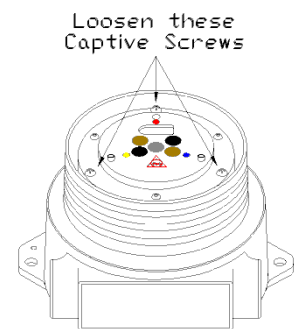

Figure 2-8
6. Loosen the three captive screws on the Detector Module "puck" (see Figure 2-8).